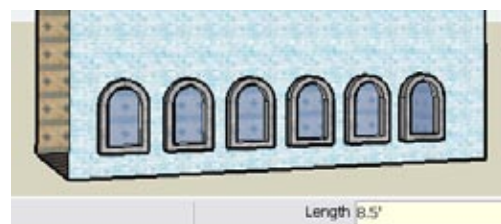

Figure 1-8
- Try $8'6''$ (Architectural format for 8 feet and 6 inches). You can enter this dimension most easily as $8.5'$. This still looks too crowded (Figure 1-8).